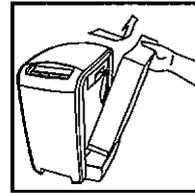

Fig. 12
- Remove the tank by grasping the tank handle and pulling the tank up and away from the unit (Fig. 12).